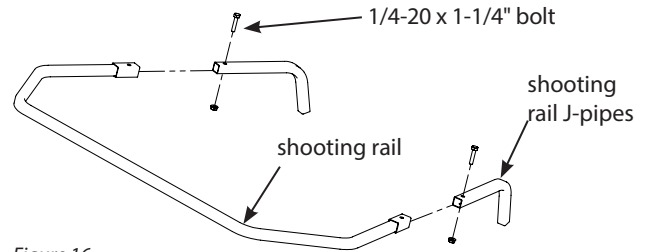

Figure 16
10. Insert the shooting rail J-pipes (410113) into the shooting rail front (410065) and secure together using (2) provided 1/4-20 x 1-1/4" bolts and locknuts. **SEE FIGURE 16.**